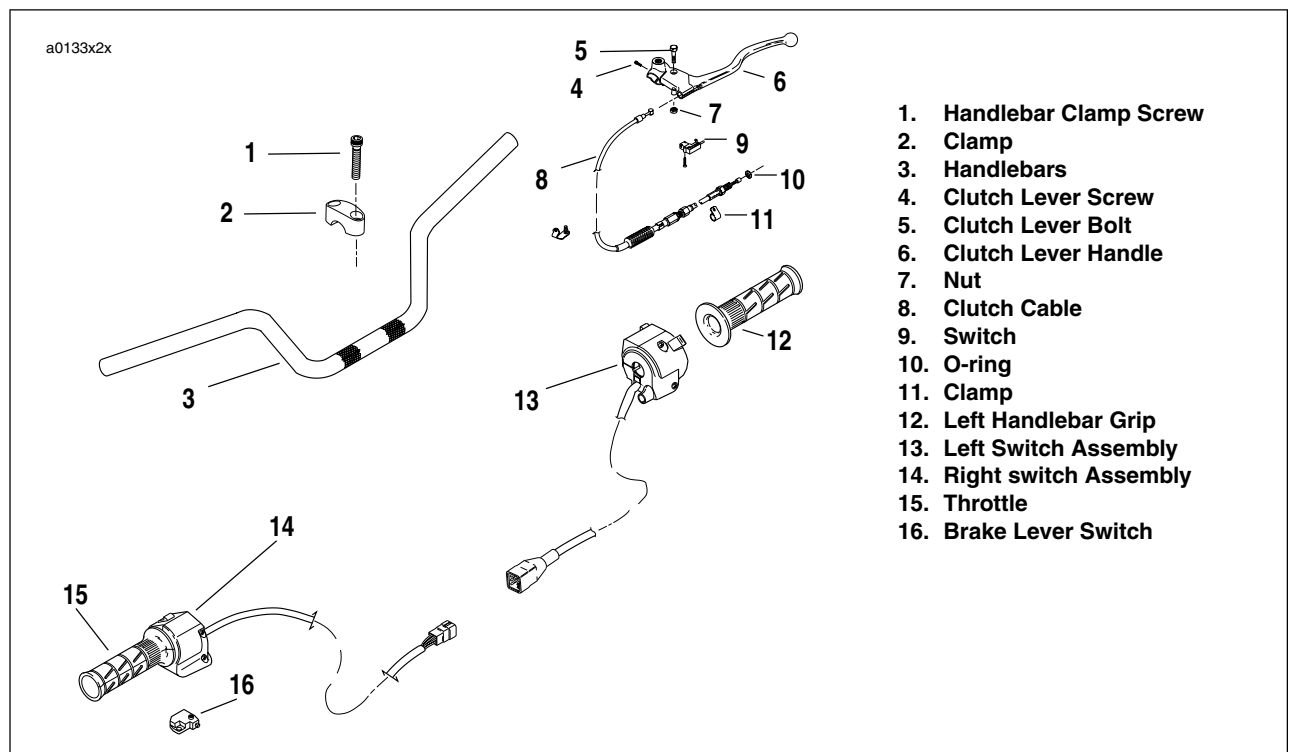

Figure 2-111. Handlebar Assembly
1. See Figure 2-111. Remove left side switch housing (13).
2. Loosen clutch adjuster and remove cable (8).
3. Unplug clutch interlock (9).
4. Remove hand grip (12)
5. Loosen lever holder bolt (4) and slide off of handlebar (3).
7. Remove two screws on front housing. Separate housings (14) from handlebar.
10. Remove throttle grip (15).